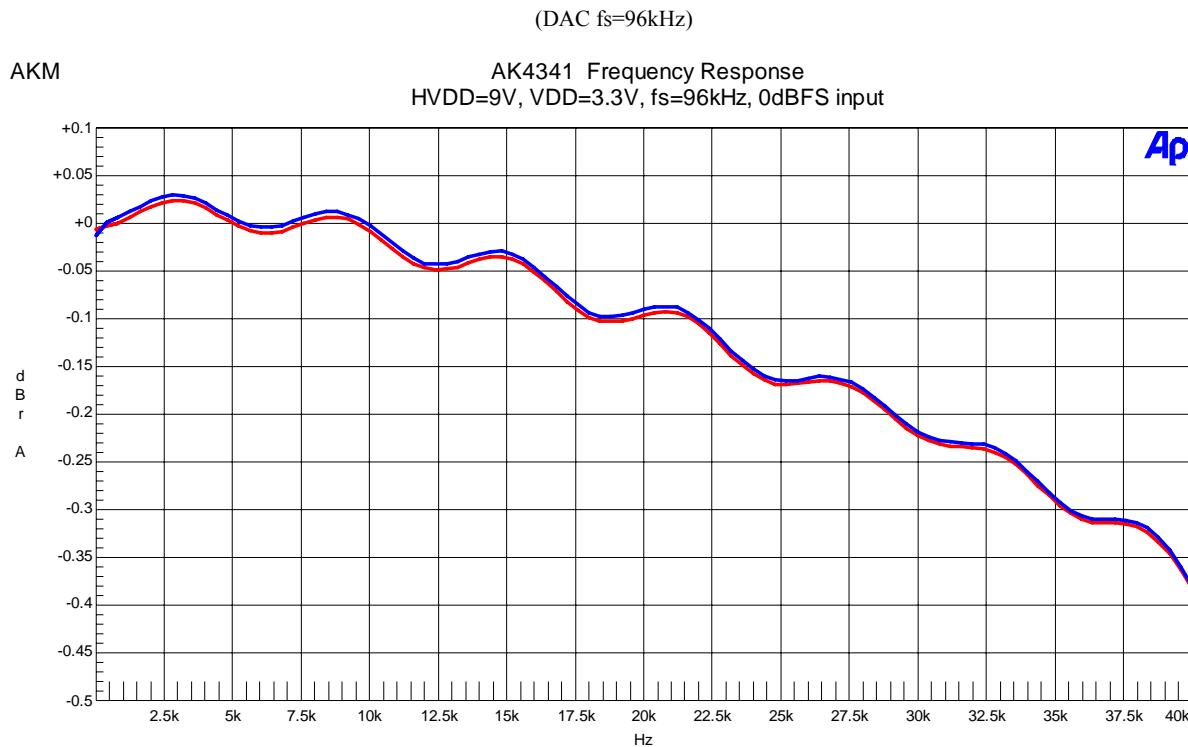

Figure 25. Frequency Response (Input Level=0dBFS)
- Figure 25. Frequency Response (Input Level=0dBFS)